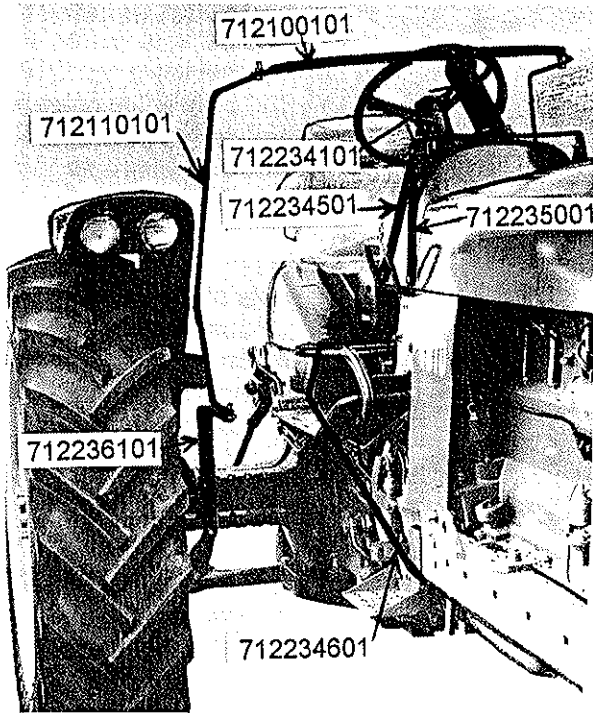

Figure 1
1. Bolt #712235001 mounting saddle to dash cowling using 5/16" x 1" . NOTE: Remove only one bolt on each side of cowling at a time. See Figure 1.
2. Bolt #712234101 attaching bracket to mounting saddle with 5/16" x 3/4" bolts. See Figure 1.
3. Bolt #712234501 saddle braces using 5/16" x 1" bolts and fasten lower ends in cowl first, then top ends to mounting saddle. See Figure 1.
4. Mount #712234601 right pedal guard and #712234701 left pedal guard on the right and left steps. Both guards mount in same manner as shown. See Figure 1.
7. Bolt yoke to attaching bracket with 1/4" x 3/4" flathead bolts. Bolt side arms to each end of the yoke using 3/8" x 11/2" bolts inserted from the bottom. See Figure 1.